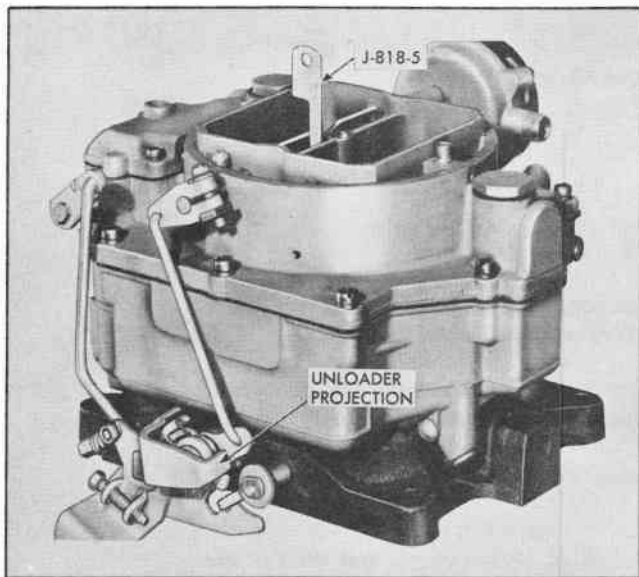

Fig. 29 Unloader Adjustment
2. There should be 1/8" (gauge J-818-5) between top edge of choke valve and inner wall of air horn (Fig. 29). If necessary, adjust by bending unloader projection on throttle lever.